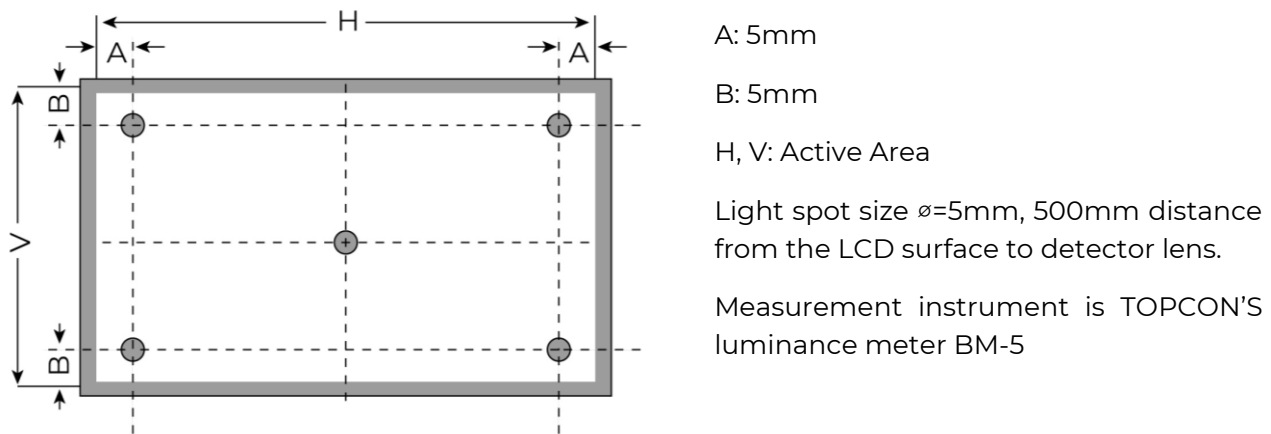

Figure 2. Measuring method for Contrast ratio, surface luminance, Luminance uniformity, CIE (x, y) chromaticity
**Note 1.** Contrast Ratio (CR) is defined mathematically as below, for more information see Figure 2.
**Note 2.** Surface luminance is the LCD surface from the surface with all pixels displaying white. For more information see Figure 2.
**Note 3.** The uniformity in surface luminance  $\delta$  WHITE is determined by measuring luminance at each test position 1 through 5, and then dividing the minimum luminance of 5 points luminance by maximum luminance of 5 points luminance. For more information see Figure 2.
**Note 4.** Response time is the time required for the display to transition from white to black (Rise Time, Tr) and from black to white (Decay Time, Tf). For additional information see Figure 2. The test equipment is BM-7A.